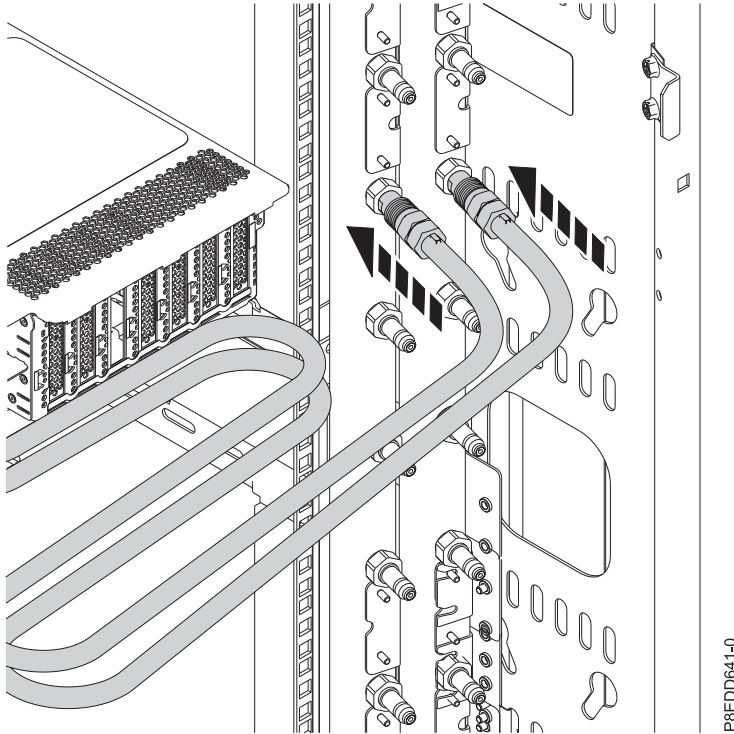

Figure 44. Connecting the water hoses
7. For a water-cooled system, connect the water hoses at the rear of the rack to the manifold, as shown in Figure 44. Ensure that you plug the male hose into the female manifold plug, and plug the female hose into the male manifold plug.